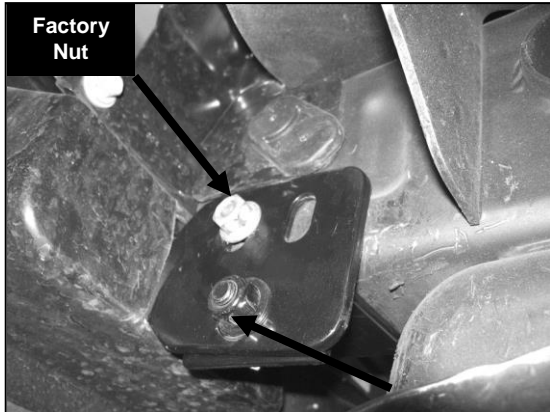

Figure 2
8. From the rear side of front bumper, insert (1) Mounting Bracket through tow hook cavity and mount it on the outer side of driver/left frame rail (Figure 2).
9. Insert (1) Tube Spacer into front of driver/left side frame rail and align it with front tow hook mounting location. While holding Tube Spacer in place insert factory tow hook bolt through Frame Bracket, frame, Tube Spacer, and Mounting Bracket. Secure it with factory nut. Do not tighten at this time.